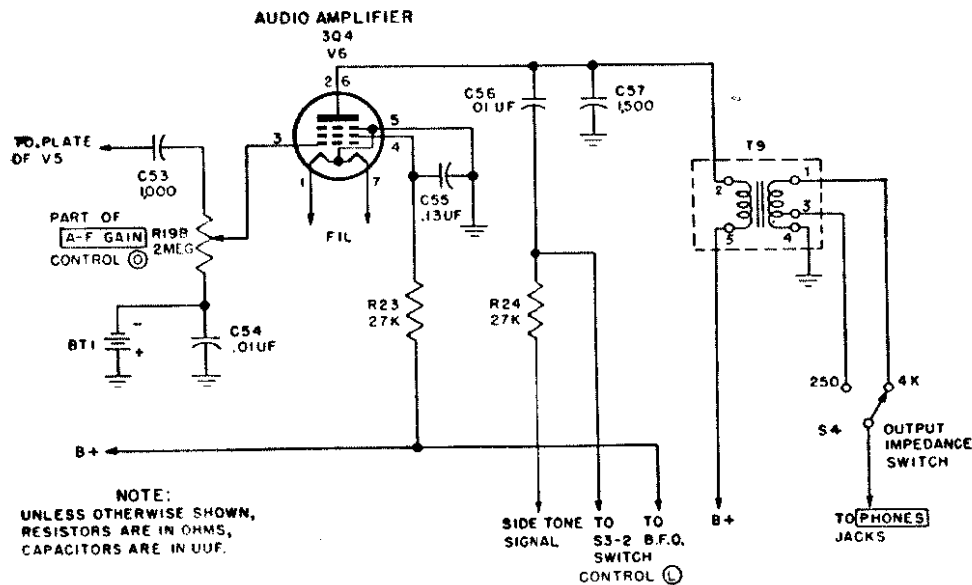

Figure 62. Second audio amplifier stage V6.
85. Second Audio Amplifier (fig. 62)